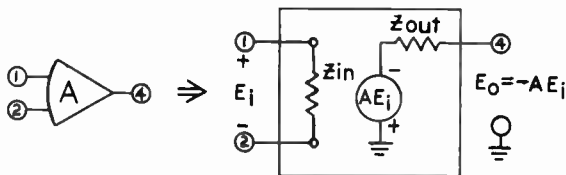
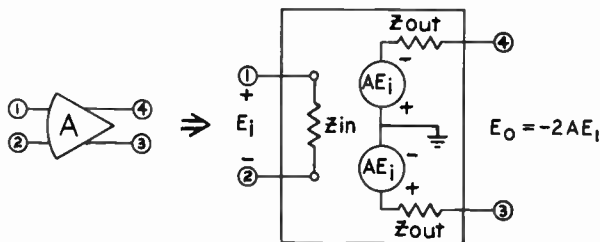

Fig. 6. Circuit model of the operational amplifier.
Fig. 7. Circuit model of the differential output operational amplifier.
The simplified models of the differential input operational amplifiers are shown in Fig. 6 and 7. As indicated in Fig. 6, the operational amplifier can be represented by an ideal voltage source whose value depends on the input voltage appearing across pins (1) and (2) plus the effects of finite input and output impedances. The value, A , is known as the open loop (without feedback) gain of the operational amplifier.
The simplified model of the differential output type (Fig. 7) is an accurate approximation only under special conditions of feedback (see page 21). Fig. 6 represents the model of the differential output type when it is used as a single ended output device, pin (3) simply being ignored.